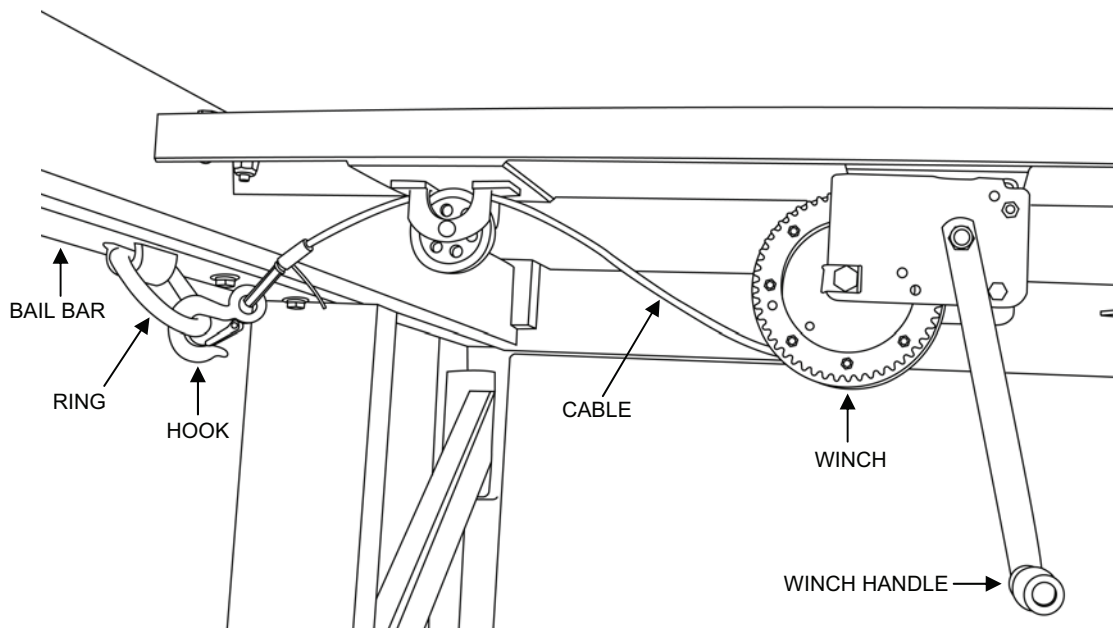

Figure 5. Winch Cable Hook Attached to Bail Bar Ring.
- a. Attach the winch cable hook onto the ring near the top of the bail bar (see Figure 5).